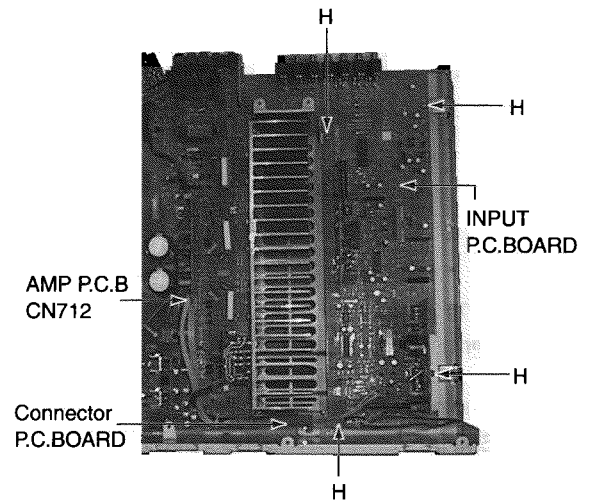

Fig.6
(5) INPUT P.C.BOARD Removal (Fig.6)